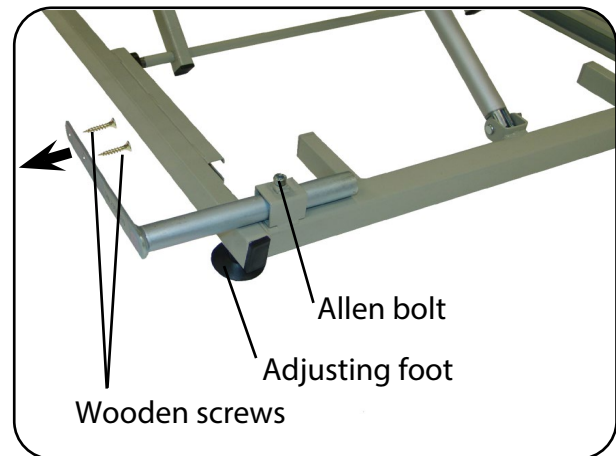

Fig. 6.3.01 - Bed frame fastening
2. If necessary, use the four adjustable adjusting feet to compensate for uneven ground (Fig. 6.3.01).
4. Attach the bed frame fastenings to the bed frame with two wooden screws each, ideally in an upright position (Fig. 6.3.01). Before doing so, check that the wooden screws (3.5 x 20) are suitable for your bed frame.
5. Fix the bed frame fastening in place by tightening the Allen bolts with the Allen key. (Fig. 6.3.01).